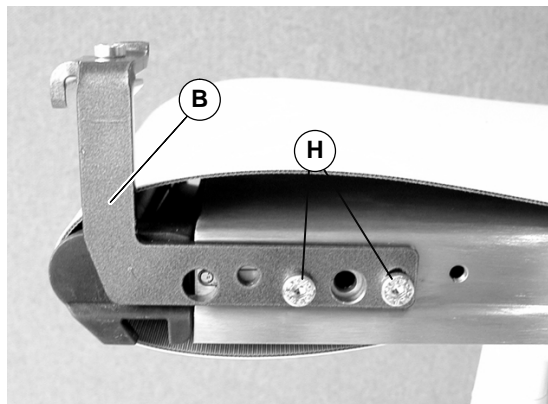

Figure 7
7. Place end stop support (B of Figure 7) on end of conveyor and attach with head plate screws (H) tighten to 57 in-lbs (6.4 N-m).